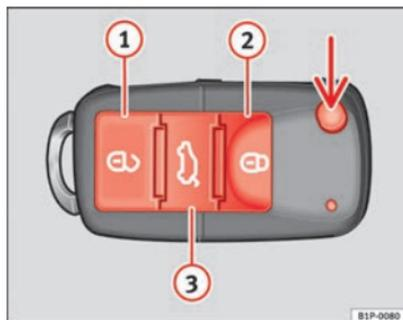

Fig. 46 Assignment of buttons on the remote control key
Using the button  fig. 46 (arrow) on the control, the key blade is released.
Unlocking the vehicle   fig. 46 ①.
Locking the vehicle   fig. 46 ②.
Unlocking the tailgate. Press button   fig. 46 ③ until all the turn signals on the vehicle flash briefly. When the unlocking button  ③ is pressed, you have 2 minutes to open the door. Once this time has passed, it will lock again.
- Press the  button  ⇒ fig. 46 on the remote control.